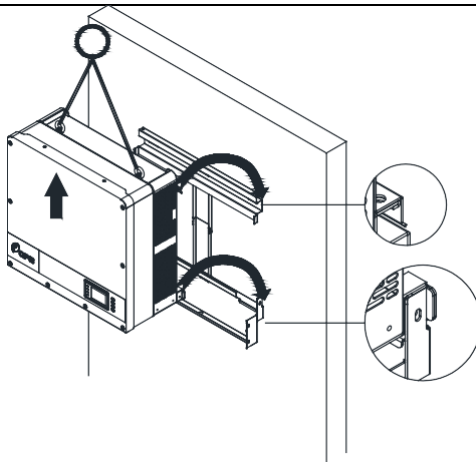
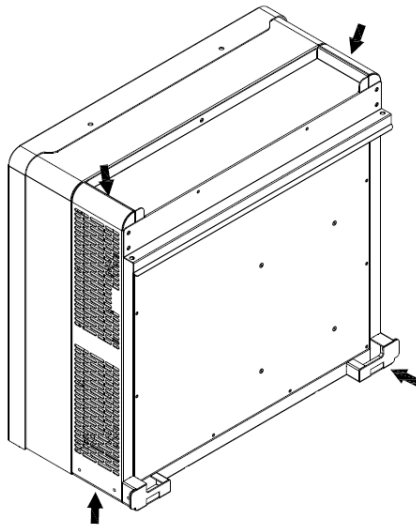

Figure 3-9 Mount the Main Enclosure on the Bracket by Lifting Sling (eye nuts required)
Figure 3-10 Grab Handle Position
Step 2 Hang the inverter onto the mounting bracket as shown in Figure 3-9 and Figure 3-10:
- (b) Manual mounting: At least two people are required to safely lift the inverter by the grab handle positions marked in Figure 3-10 and mount it onto the bracket.